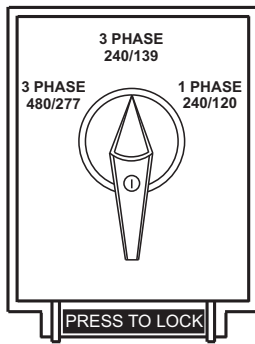

Figure 20. Voltage Selector Switch (3-Phase 240/139-Volt Position)
1. Place the **Voltage Selector switch** in the **3-phase 240/139-volt position** as shown in Figure 20.